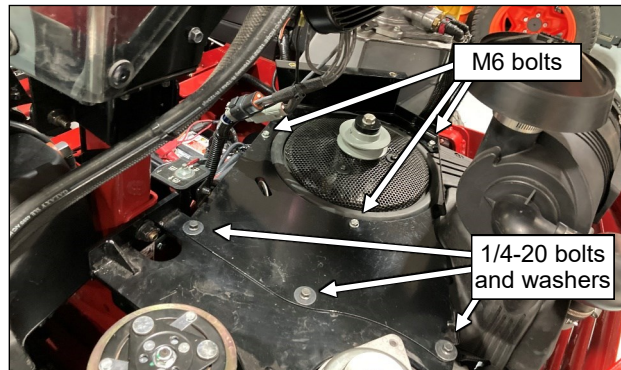

Fig. 7.1 (Flywheel shroud mount)
- 7.1 See fig. 7.1. Install the Flywheel Shroud Mount to the engine housing using 3 of the 4 M6 screws removed in step 1.3, and to the compressor mount with three 1/4" bolts and fender washers.